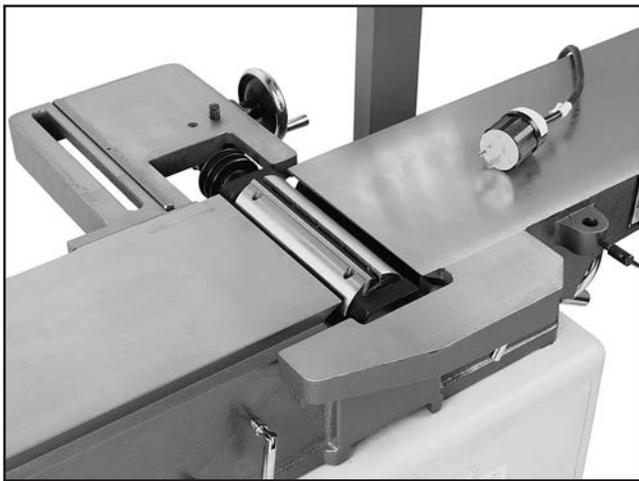

Figure 2. Example of jointer disassembly Steps 1-4.
4. Lower both beds to make enough room for the cutterhead to come out, as shown in **Figure 2**.